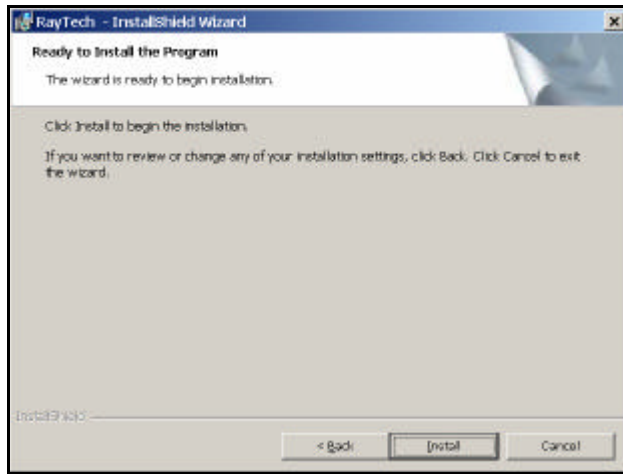

Figure 2-6. InstallShield Wizard Ready to Install Screen
6. Select the components and the installation methods you want, then click **Next** to continue. The ISW Ready to Install screen is displayed (Figure 2-6).